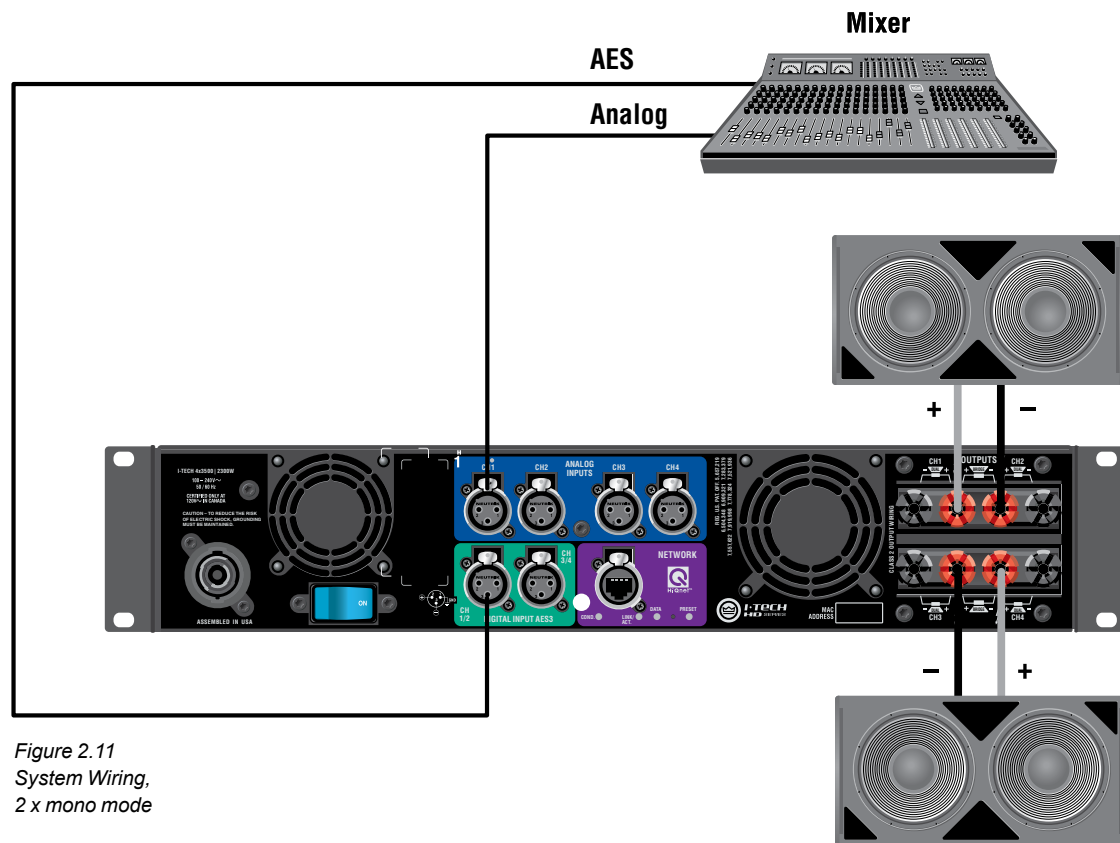

Figure 2.11
INPUTS: There are three ways to connect an input signal to the amplifier (Figure 2.11):
- 1) Wire the speaker across the red binding post channels 1/2 and 3/4 (Figure 2.11). Do not use the black binding posts when operating in Bridge-Mono mode.